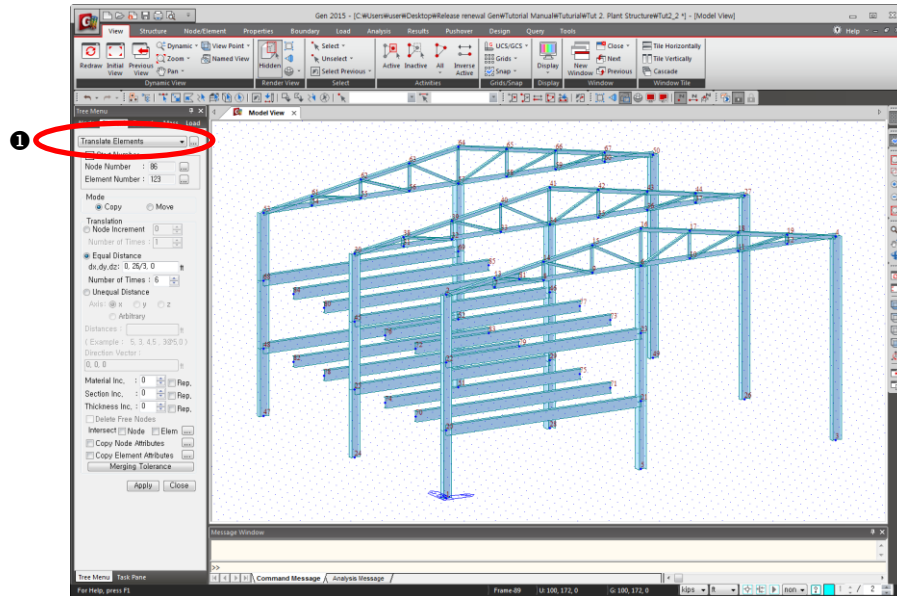

Figure 2.9 Duplicated 3-D Frame
5. Select **Translate Elements** in the functions selection field (Fig.2.9–①).